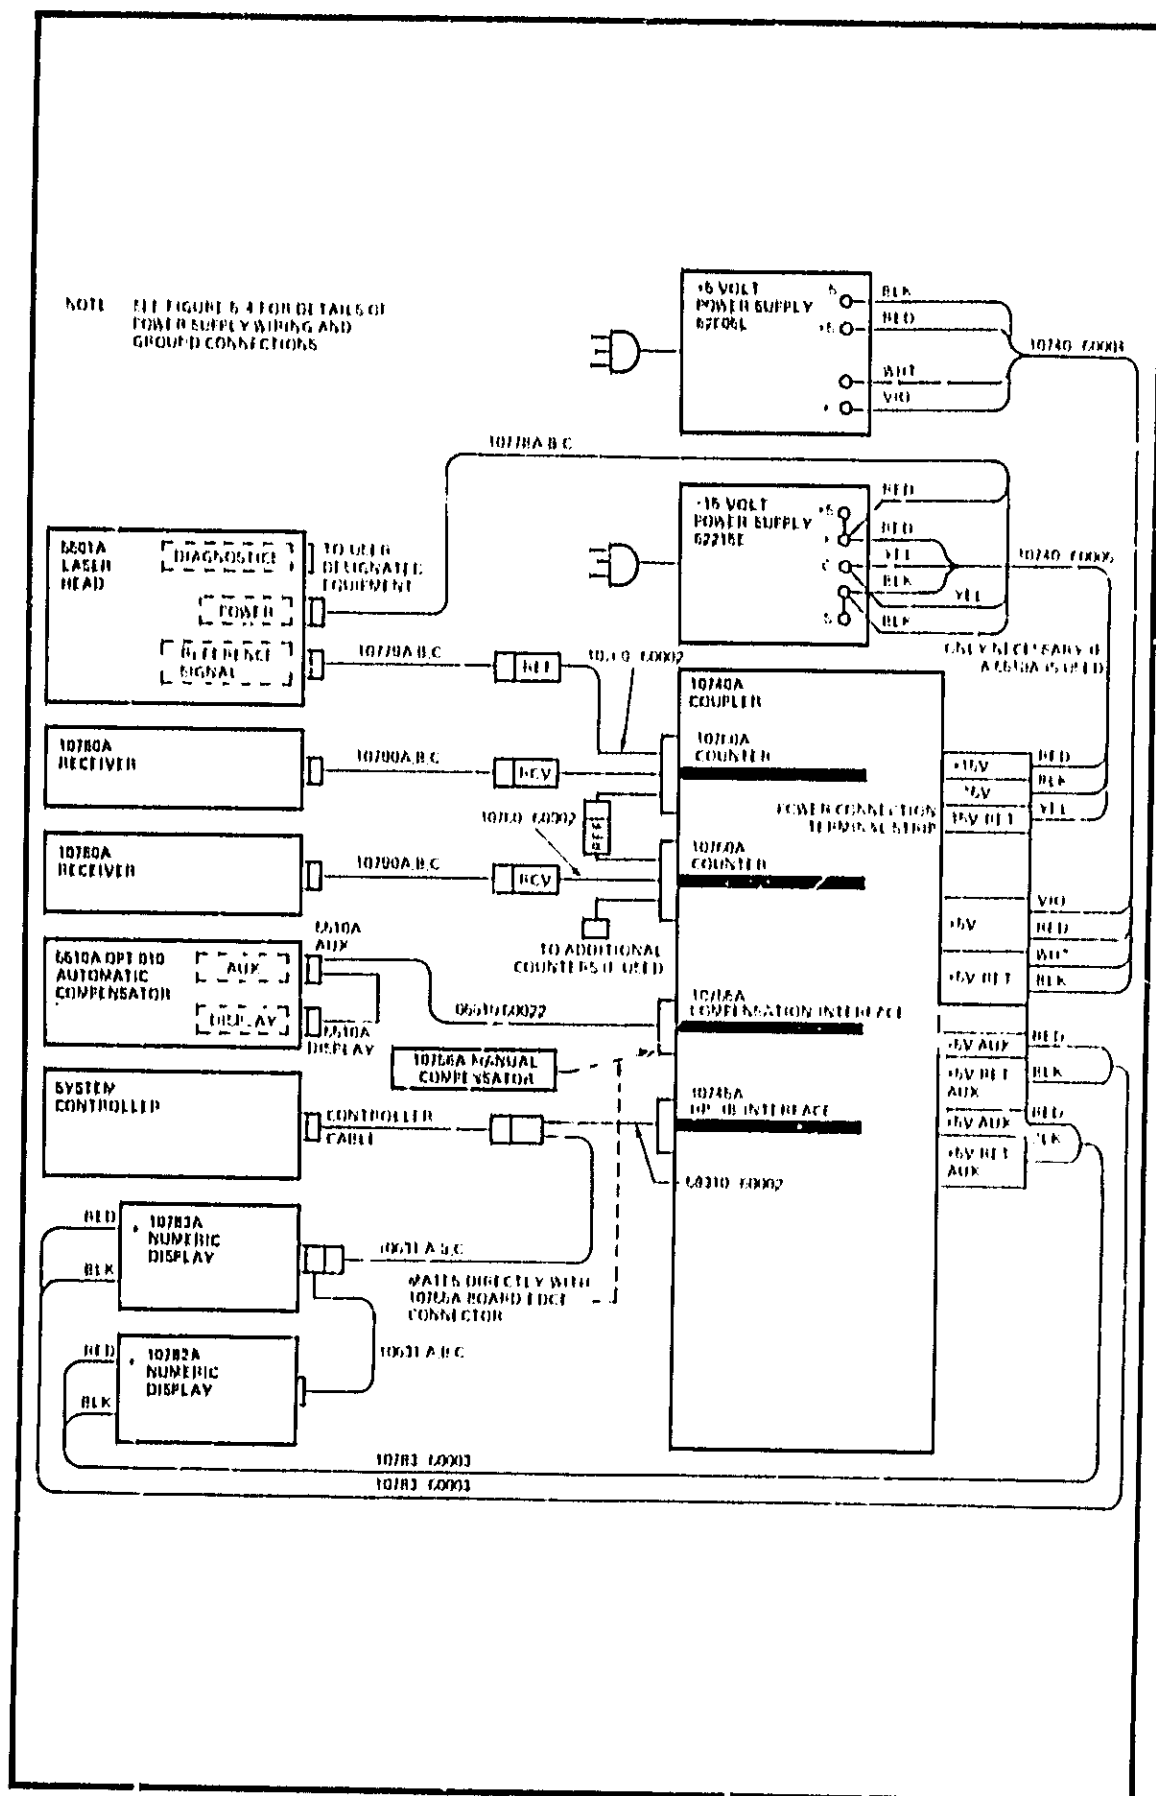

Figure 5-6. Typical HIP-IB Controller Interface Electronics Interconnecting Diagram
- g. Connect the reference/measurement cables from the laser head and first receiver to the first 10760A Counter card (see *Figure 5-6* for a typical system interconnect).
- h. Connect the hooded connectors in sequence to each of the additional 10760A Counters in the system and daisy-chain the REF connectors as shown in *Figure 5-6*.